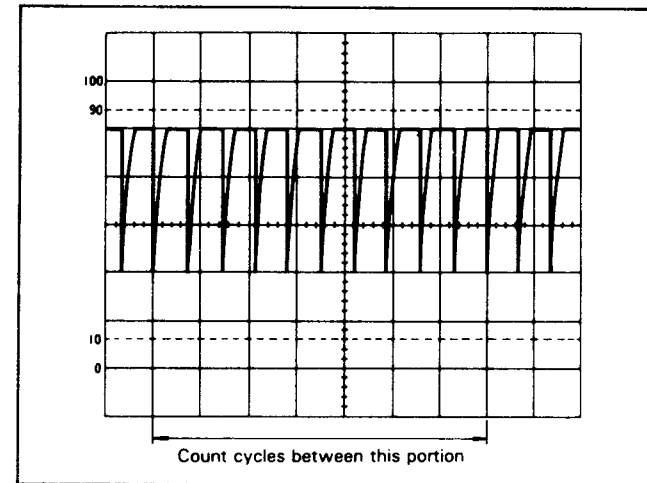

Fig. 9. Alternate Method of Frequency Measurement.
For the example shown in Fig. 9, there are 10 cycles within 7 divisions. If the Adapter **TIME/DIV** setting is **50 μs** and sweep magnification is not used, the frequency is calculated as follows:
(Refer to Fig. 9)
2. Count the number of cycles of waveform between a chosen set of vertical graduation lines (see Fig. 9).